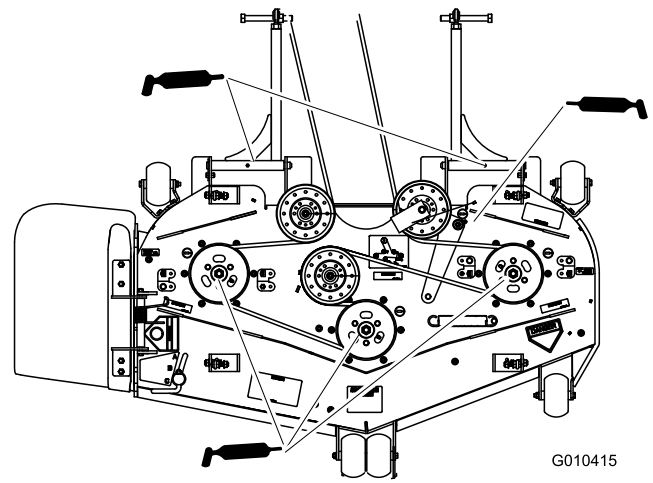

Figure 32
3. Grease the idler pulley pivot (Figure 32).
4. Grease the fittings on the 3 spindle bearings (Figure 32).